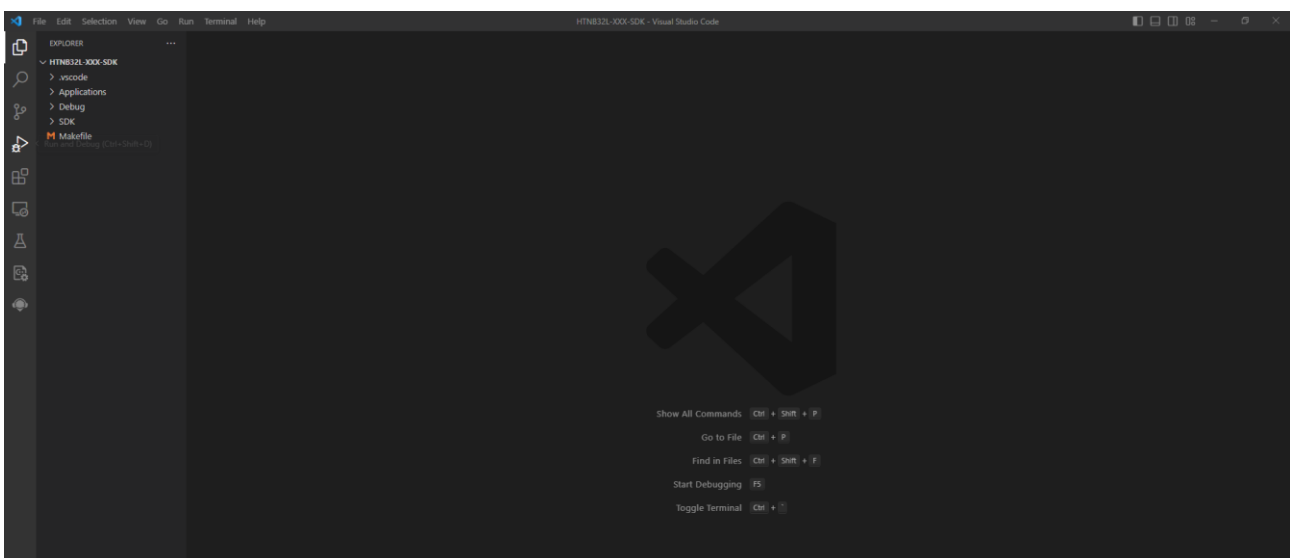

Figure 13: HTNB32L-XXX-SDK opened on VSCODE editor.
5. Figure 13 shows the VSCODE workspace properly launched:
- Open the HTNB32L-XXX-SDK directory in your VSCODE editor (Figure 13).